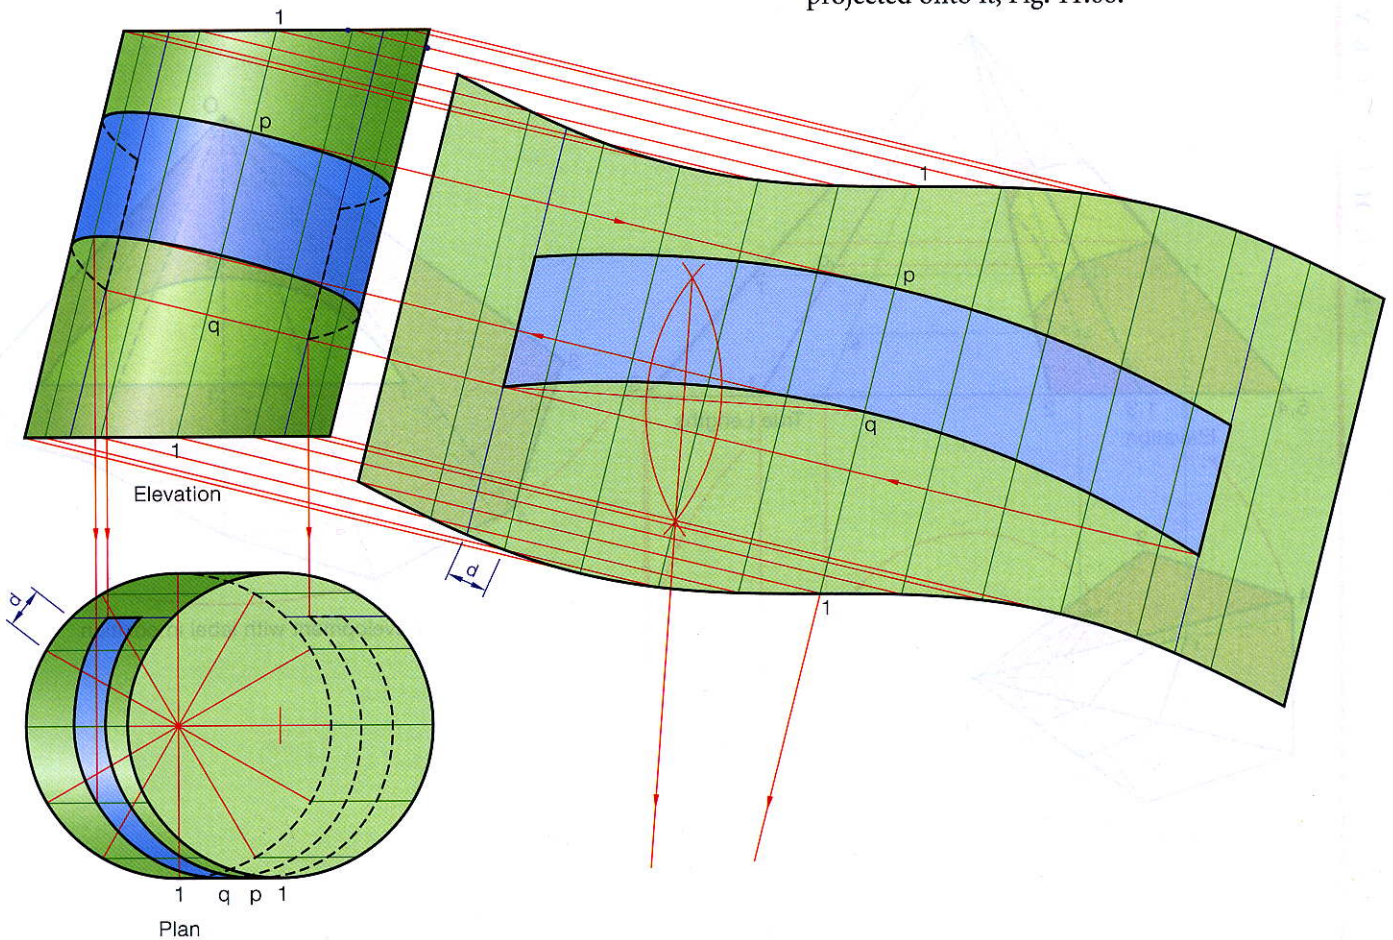

Fig. 11.68
- (1) Develop the cylinder and place the label in position.
- (2) Where the label crosses the generator lines in the development the points are brought back to elevation and then down to plan.
- (3) A generator is drawn through the end of the label. Distance d is a true length and is stepped-off on the plan. The generator is drawn in plan and elevation and the end of the label is projected onto it, Fig. 11.68.